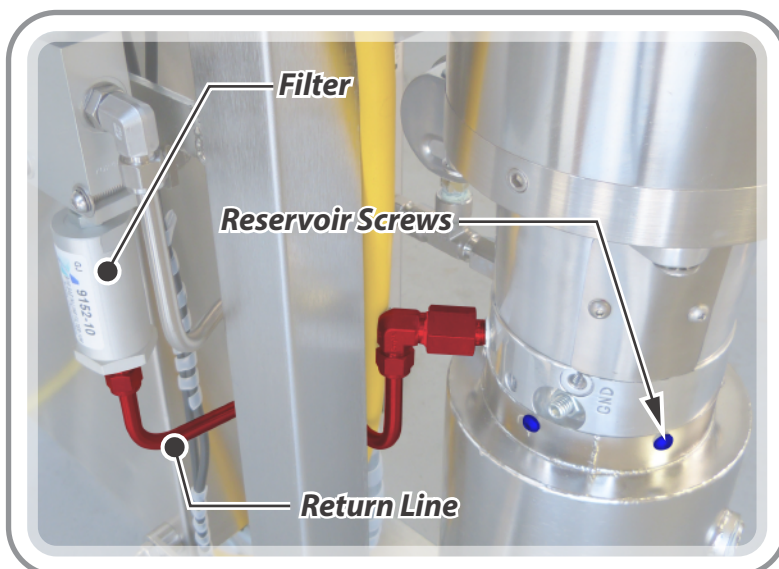

Figure 19: Procedure Components
1. Locate and remove the six (6) screws retaining the hydraulic reservoir (See **Figure 19**). Remove the reservoir by guiding it straight down. This will expose the pick-up tube.
3. Reinstall the reservoir using the six (6) screws removed in step #1.
9. Use an 11/16" wrench to remove the Return Line connecting the bottom of the filter to the pump-reservoir assembly (See **Figure 19**).